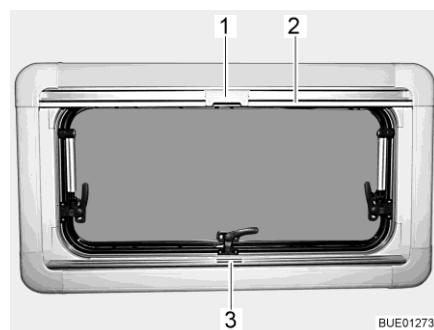
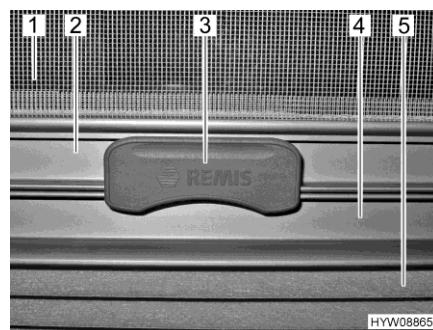

Fig. 15 Hinged window
Fig. 16 Catch
The Roman shade (Fig. 16,5) is located in the lower blind box.
- Seize the Roman shade by the centre of the holding bar (Fig. 15,3 and Fig. 16,4), pull it from the bottom to the top and release it at the desired height. The Roman shade will stay at this height.
The insect screen (Fig. 16,1) is located in the upper blind box.
- Pull the insect screen down by the holding bar (Fig. 15,2 and Fig. 16,2), until it touches the holding bar of the Roman shade (Fig. 16,4).
- Clip the catch (Fig. 15,1 and Fig. 16,3) on the insect screen into the holding bar of the Roman shade. When the catch is locked, the Roman shade and the insect screen can be adjusted together.
- Push the catch (Fig. 16,3) on the insect screen upward.
- Move the insect screen back slowly on the holding bar (Fig. 15,2).